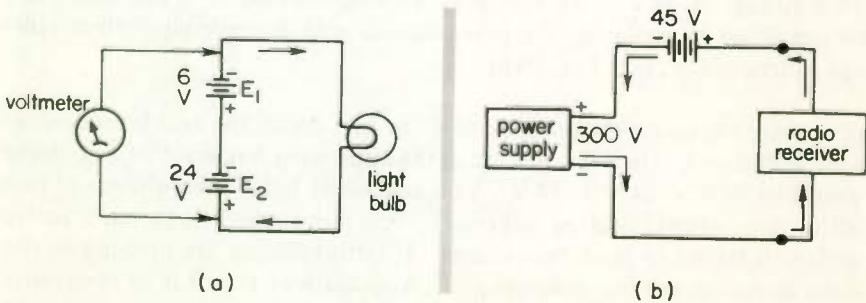

Fig. 37
1. In Fig. 37(a) the voltmeter reads (a) 30 volts. The voltage across the light bulb is (b) 30 volts.
2. In the circuit shown in Fig. 37(b) the total circuit voltage is (a) 345 volts. The voltage to the radio receiver is (b) 345 volts.
4. If the battery shown in Fig. 37(b) had its leads reversed, the voltage to the radio receiver would be 255 volts.
5. If in the circuit shown in Fig. 37(a) the resistance of the light bulb is $10\ \Omega$, the current drawn by the bulb is 3 amperes.